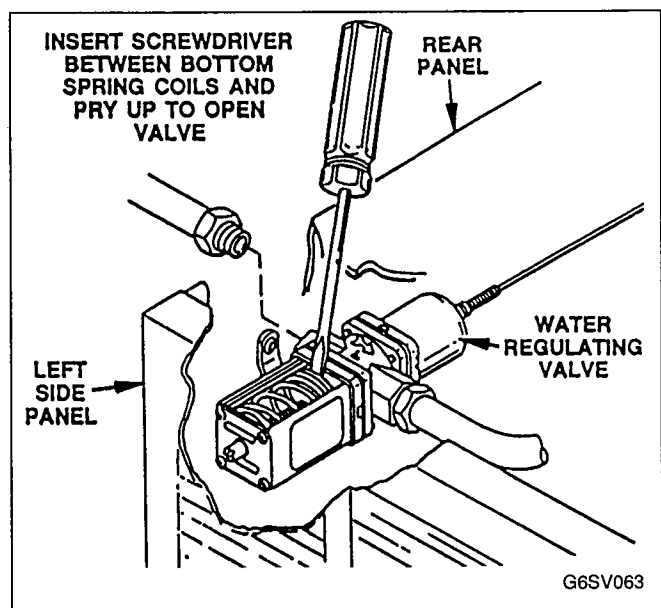

FIGURE 56. MANUALLY OPENING WATER REGULATING VALVE
3. Pry open water regulating valve by inserting large standard screwdriver between bottom spring coils of valve. Pry spring upward to open valve, Figure 56.